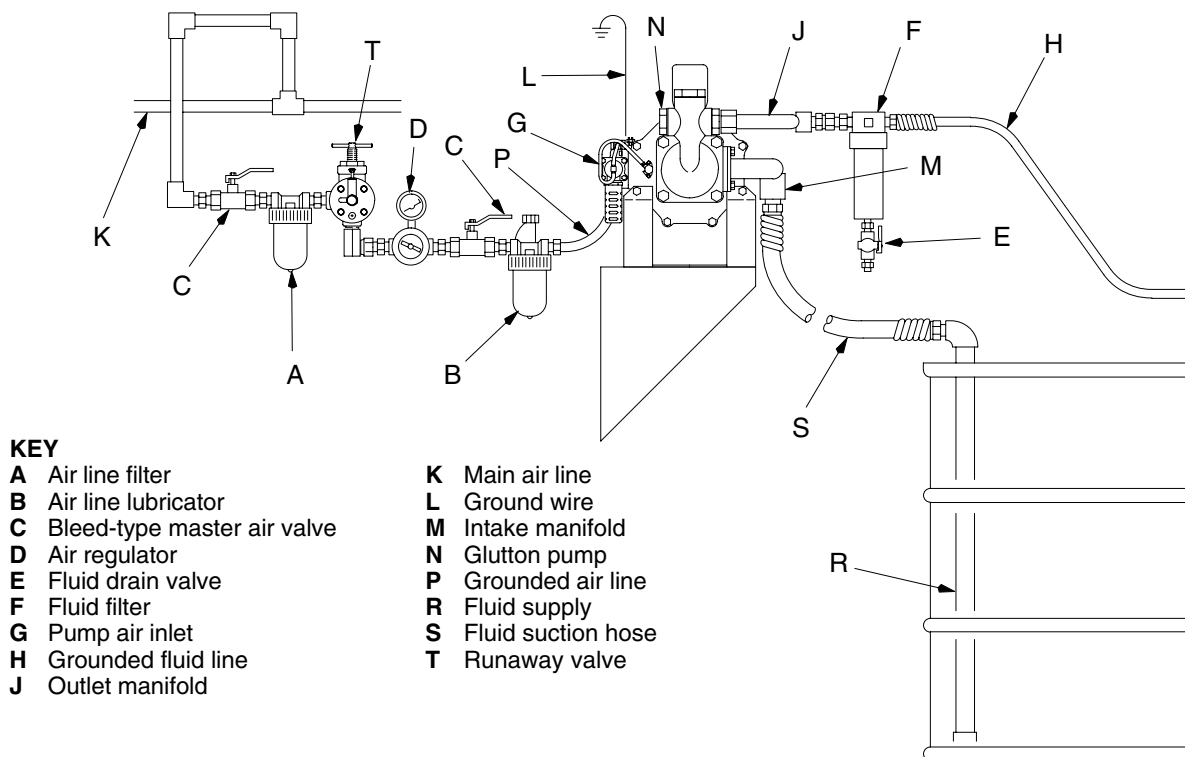

Fig. 4
- The installation shown in Fig. 4 is only a guide for selecting and installing system components. Contact your Graco distributor for assistance in planning a system to suit your needs.
Connect the fluid suction hose (S) to the pump fluid inlet (M). See Fig. 4.
- The pump fluid inlet (M) is 1.25 npt(f).
1. Install the air line accessories to the left of the pump as shown in Fig. 4. Mount these accessories on the wall or on a bracket. Be sure the air line supplying the accessories is grounded.
2. Install a flexible air hose between the accessories and the 1/2 in. npt(f) air inlet (G). Use a minimum 1/2 in. ID air hose.
3. Install an air line lubricator (B) upstream from the pump air inlet for automatic pump lubrication.
4. Install a pump runaway valve (T) to sense when the pump is running too fast and shut off the air supply to the motor. To order a pump runaway valve, order Part No. 224040.
5. Install an air regulator (D) to control air inlet pressure.
6. Install one bleed-type master air valve (C) downstream from the air regulator and use it to relieve trapped air. Locate the other master air valve upstream from all air line accessories and use it to isolate the accessories during cleaning and repair.
7. Install an air line filter (A) to remove harmful dirt and moisture from your compressed air supply.
8. Install a grounded air supply line (P) with a minimum 1/2 in. ID. See Fig. 4.